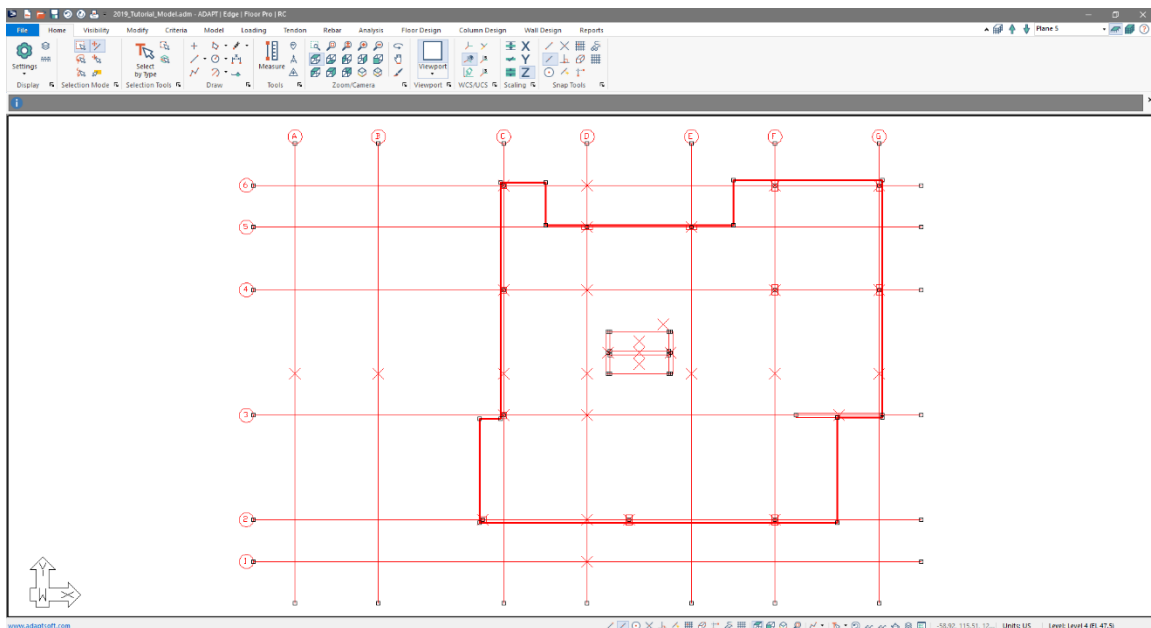

Figure 5-1
- Click on the *Zoom Extents*  icon. The user should see all items modeled highlighted in red to denote they have been selected as shown in **FIGURE 5-1**.